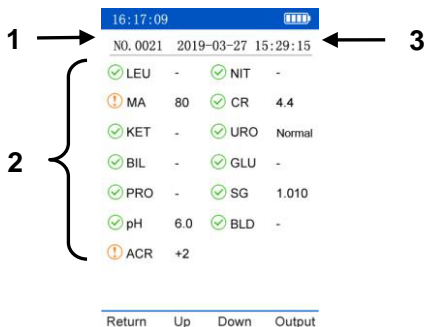

Figure 6.1
1) The test results are as shown in figure 6.1.